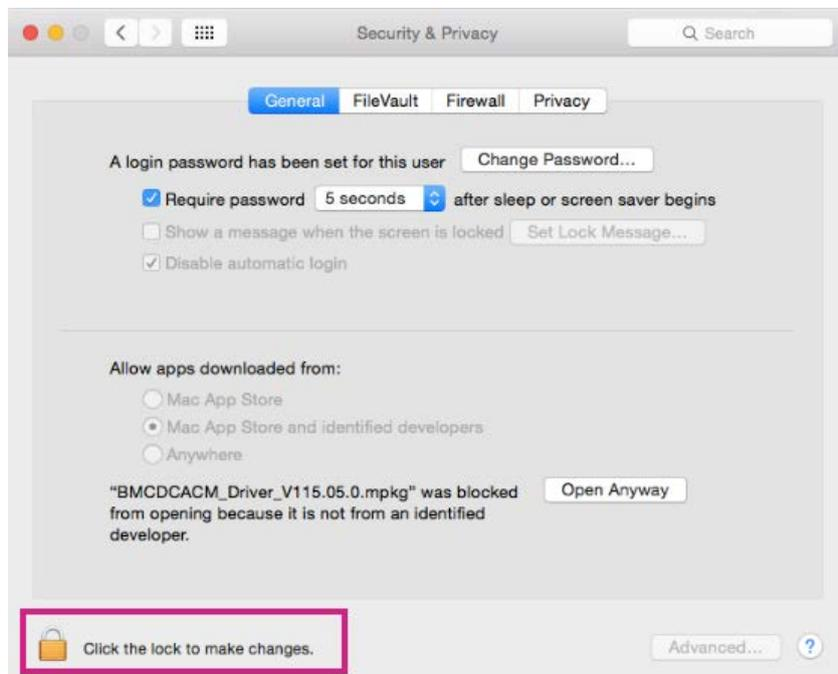

Figure 29 Security and Privacy settings confirmation of changes
- 3) Click on the lock icon (as shown in Figure 29) and enter your administrator password to confirm the changes.